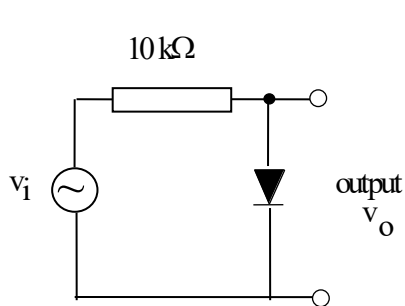
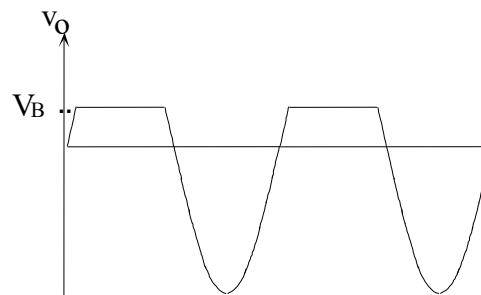
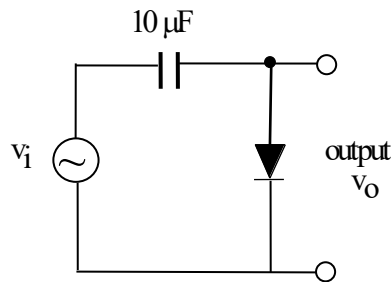

Fig. 1a: Clipper circuit
Fig. 1b: Clipper waveforms
Figure 3: Clamper circuit
Diodes may be used in a number of ways to change the shape or form of a signal. For example, the diode clipper of Fig. 1a may be used to limit the amplitude of an ac signal.
- Set up the circuit of Fig. 1a. Use the signal generator at 1 kHz to provide an input sinusoidal signal at 8 V_{pp}. Display both v_i and v_o on the oscilloscope (use dc coupling). The output v_o should be as shown in Fig 1b.
- a. Replace the $10\ \text{k}\Omega$ resistor in Fig. 1a with a $10\ \mu\text{F}$ capacitor (Fig. 3); again use dc coupling on the oscilloscope coupling.